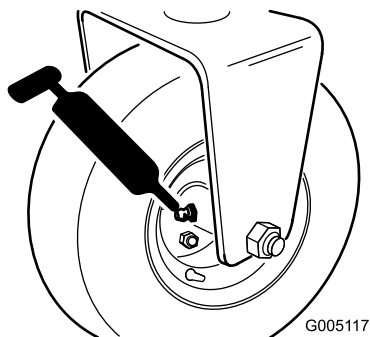

Figure 24
- Rear wheel bearing (1) (Figure 24)